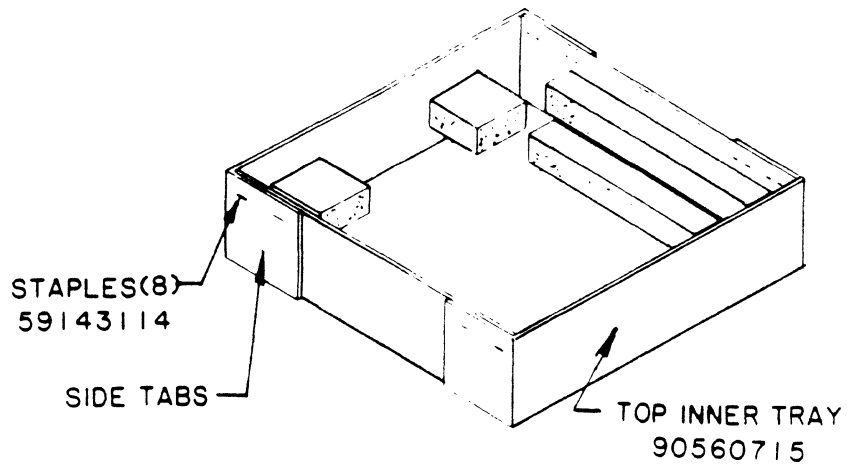

Figure 3-18. Preparing Top Inner Tray
- f. Form the (4) sides of top inner tray up with side tabs on outside. Fasten (4) corners together with (2) staples at each corner (refer to figure 3-18).